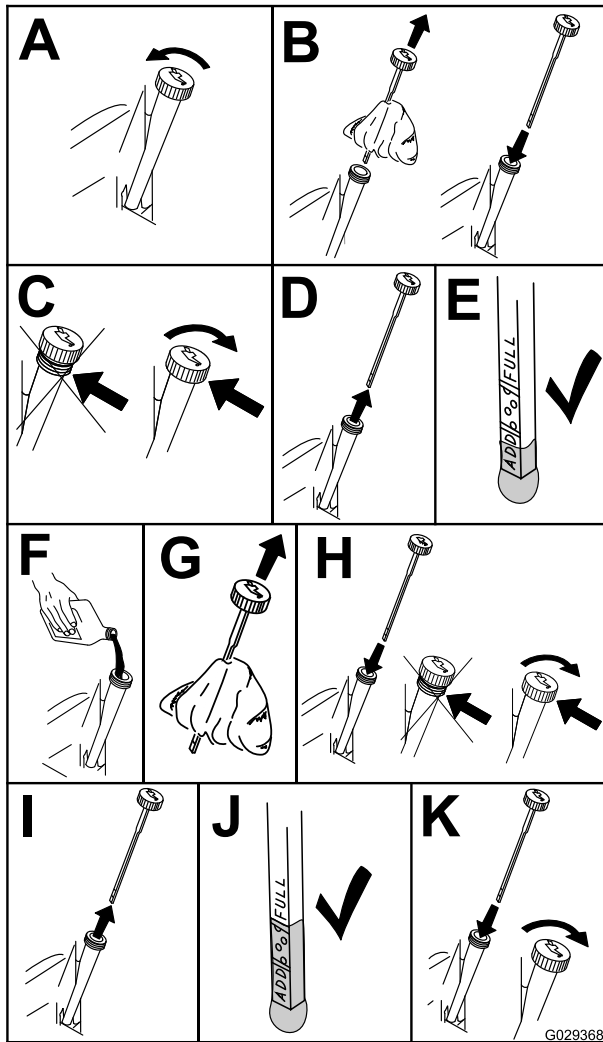

Figure 30
3. To keep dirt, grass clippings, etc., out of the engine, clean the area around the oil-fill cap and dipstick before removing it (Figure 30).